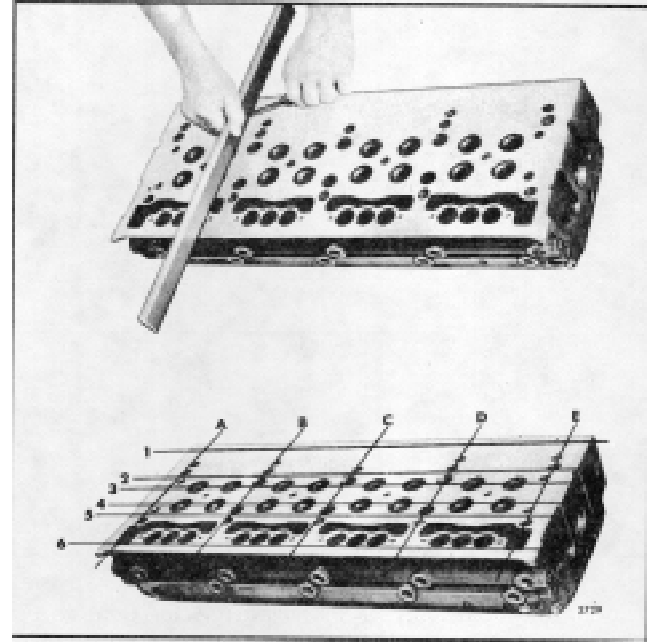

Fig. 10 - Checking Bottom Face of Cylinder Head
a. Use a heavy, accurate straight-edge and feeler gages, tool J 3172, to check for transverse warpage at each end and between all cylinders. Also check for longitudinal warpage in six places as shown in Fig. 10. Refer to Table I for maximum allowable warpage.